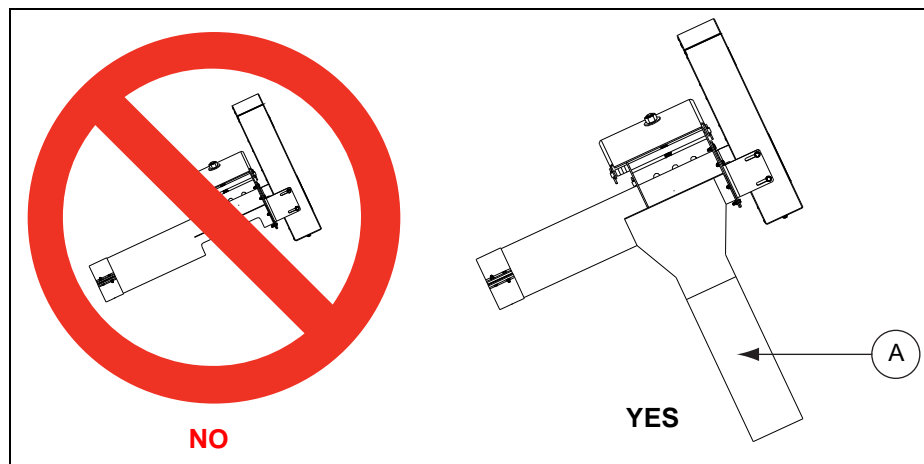

Figure 2B
2. Outlet guard, comprising discharge spout and minimum 850 mm long solid steel extension tube. (See Figure 2B on Page 11.)